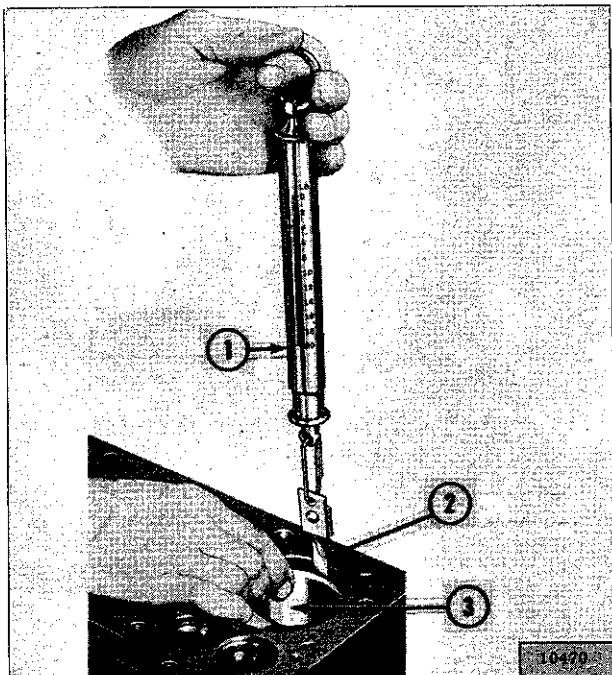

FIG. 36—FITTING PISTON IN CYLINDER BORE
a. Check fit of each piston to cylinder bore, when block and pistons are clean and dry and at approximately 70°F [21°C] by using Piston Fitting Gauge and Scale C-690 as shown in Fig. 36. Use a .004" [0,1016 mm.] thickness gauge ( $\frac{1}{2}$ " wide) [12,7 mm.] if old pistons are to be used. When fitting new pistons, use .0015" [0,0381 mm.] gauge. The piston is fitted upside down in the block to facilitate the operation, and the gauge must extend the full length of piston on the thrust side (side opposite slot in piston skirt). Scale should register 5 to 10 pounds [2,26 a 4,53 kg.] pull to remove thickness gauge from between cylinder wall and piston. Excessive pull indicates need for a slightly smaller piston or additional honing of cylinder. Insufficient pull indicates need for fitting a larger piston.